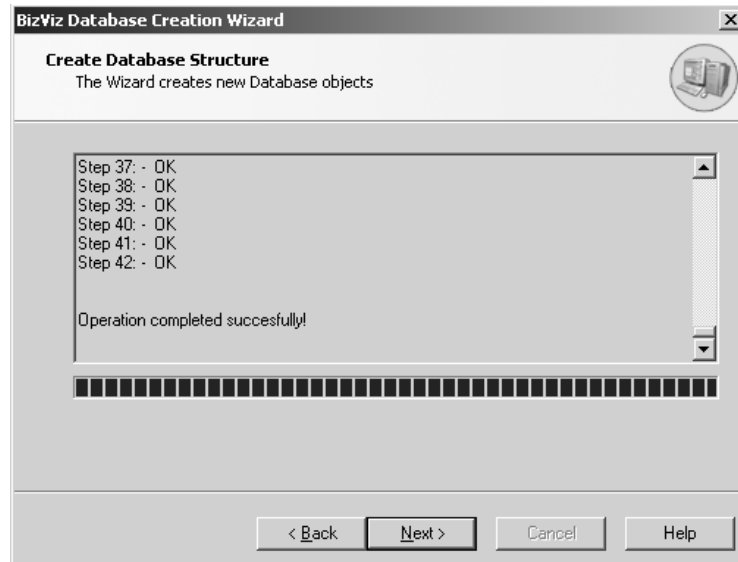

Figure L2.7 - Status of Database Creation
7. The Wizard displays the steps it takes to create the new SQL Server database, as shown in Figure L2.7. Click on the **Next** button to continue.